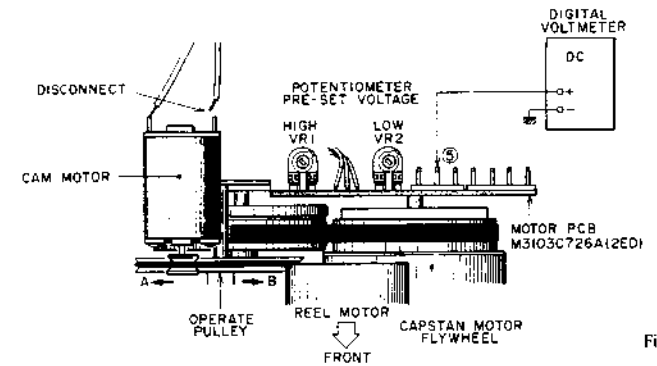
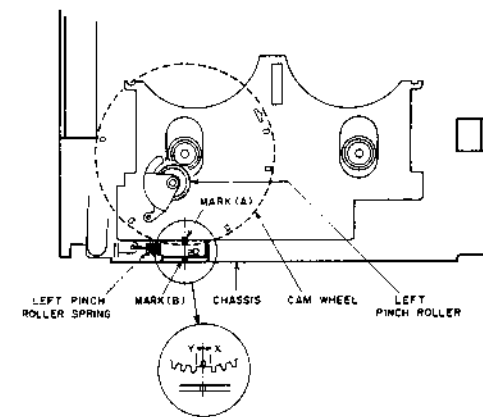

Fig. 5-4
Fig. 5-5
5-4. POTENTIOMETER PRESET VOLTAGE ADJUSTMENT (Refer to Fig. 5-4 to 5-5)
- b. Connect the digital voltmeter as shown in Fig. 5-4.
- b. With power ON, adjust VR2 so that the voltage reading will be 0.94V (DC).
- b. With power ON, adjust VR1 so that the voltage reading will be 8.08V (DC).
- b. Adjust VR1 slightly so that the center of Marker (A) coincides with the center of Marker (B) (should be within the range between X and Y) at STOP Mode as shown in Fig. 5-5.